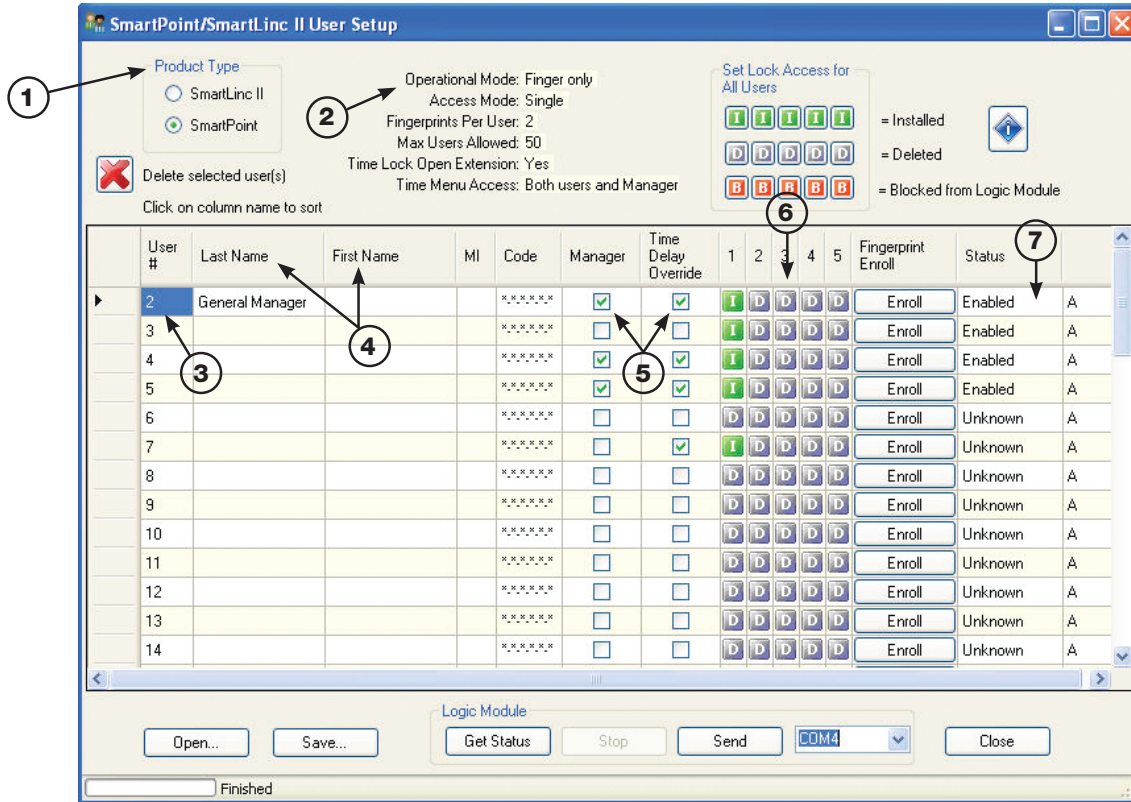

Figure 57
- Select the product type, either SMARTLINC II or SMARTPOINT (Callout 1 on Figure 57).
- A listing of information regarding the setup of the Logic Module will be shown on the screen (Callout 2 on Figure 57).
- User #2 is always the General Manager. This person, in addition to the Masters, has the ability to add and delete other managers enrolled into the system (Callout 3 on Figure 57). The name "General Manager" can be changed to the actual first and last name of the Manager.
- All users enrolled into the system can be noted by their first and last names (Callout 4 on Figure 57).
- Each user enrolled can be selected as a manager or allowed to have Time Delay Override ability. Marking the appropriate box with a checkmark will select these functions (Callout 5 on Figure 57).
- User #2 is automatically installed for up to five locks (the maximum this system can manage.) Lock Access may be set as either Blocked (no lock with this ID will be enrolled into the system) or **Deleted** (no access to this lock is given at this time, but may be added to this user at a later date through this software or directly at the Logic Module). (Callout 6 on Figure 57.)
- The status column refers to operational mode. The mode selected should match the operational mode shown for the system (see callout 7 on Figure 57).